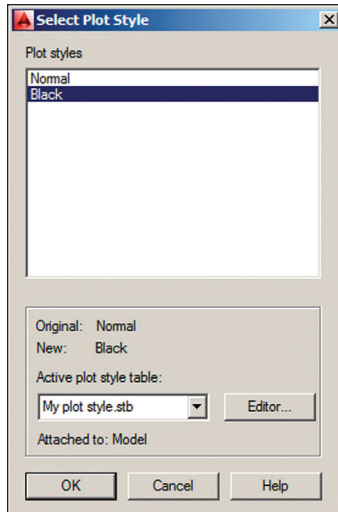

FIGURE 14.9 Selecting a plot style to assign to a layer
1. Type LA (for Layer) and press Enter. Right-click any one of the layer names in the Layer Properties Manager that appears and choose Select All from the context menu. Click the word *Normal* in the Plot Style column. The plot style table you created earlier (My plot style.stb) is selected. Choose Black in the Select Plot Style dialog box (see Figure 14.9). Click OK. Now all the layers will plot in black.